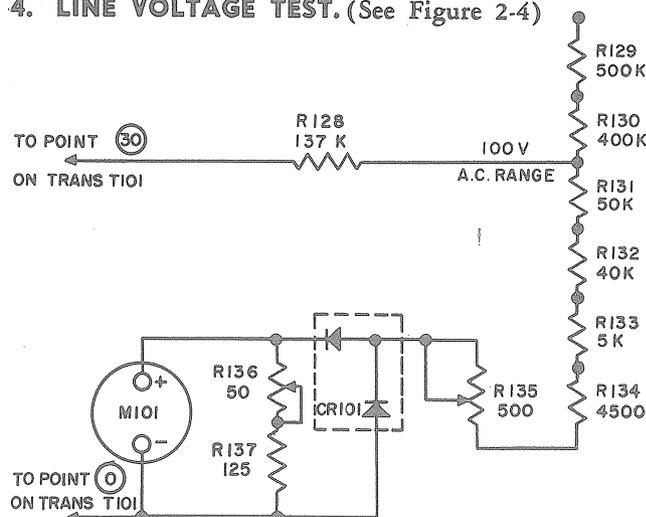

Figure 2-4.—Simplified Line Voltage Test Circuit.
4. LINE VOLTAGE TEST. (See Figure 2-4)